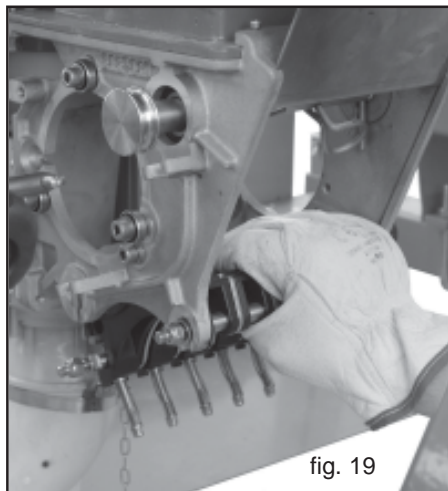

fig. 19
- 3) Remove the back part (Fig. 19) of the feeler pin unit, first, followed by the front part (Fig. 20).